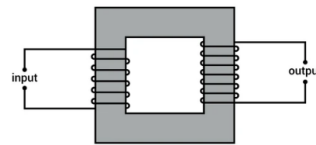

Figure 1: Transformer
- **Figure 1** below show an illustration of a simple transformer.
4. **Figure 1** is a transformer diagram.
- a. Name the type of transformer in Figure 1.